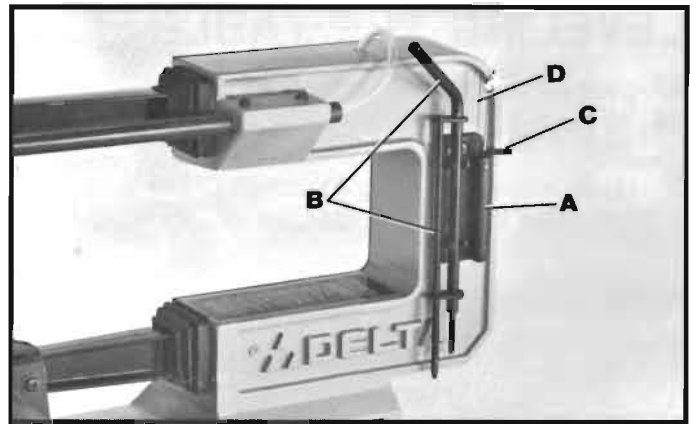

Fig. 25
A tool holder (A) Fig. 25, is provided on the right hand side of the saw frame and is used to hold the quickset blade changing wrench (B), allen wrench (C) and extra blades (D), as shown.